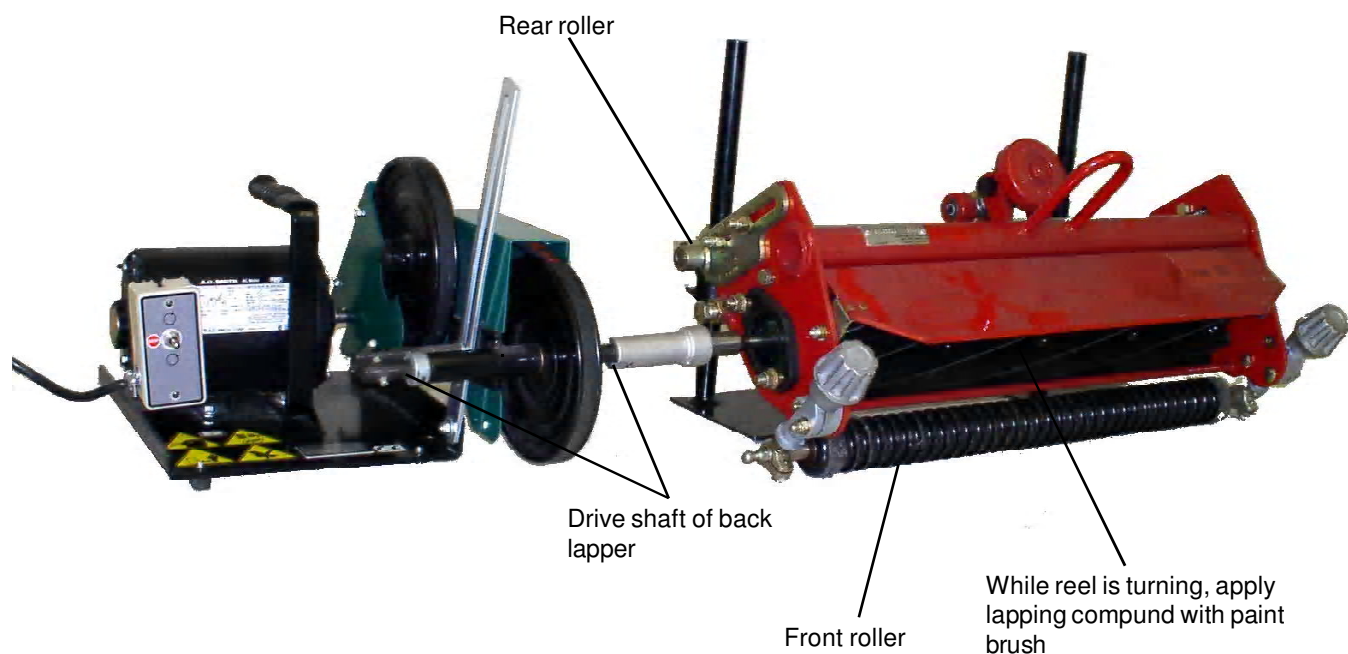

FIG. 2
2. Depending on the type of mower, place the height-adjustable support stands under the rear roller on cutting units with a front roller. The front roller will then be on the floor as shown in FIG. 2. On cutting units with no front roller, place the height adjustable stands under either the front tie bar or the mower frame; the stands should be placed as far apart as possible.
3. For optimum performance of your back lapper, the front edge of your bedknife should be lower than the back of your bedknife as shown in FIG. 2.
- \* To easily accommodate a wide variety of mower units, the back lapper can connect to either the right or left side of the mower unit, as indicated in FIG. 2.